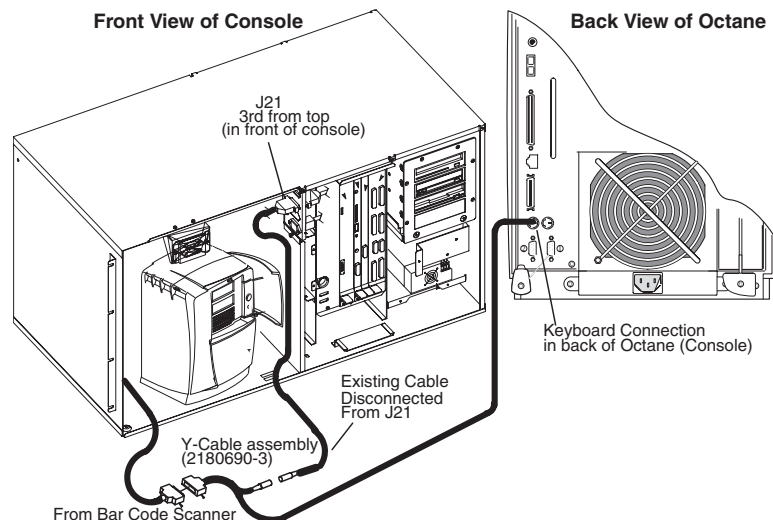

Figure 6-2 Bar Code Reader Installation (Detail)
- 3.) Attach the Y-cable assembly (2180690-2) to the bar code scanner cord. (Refer to Figure 6-2 for details)
- 4.) Unplug the existing keyboard connector from rear of Octane Computer. (Refer to Figure 6-2 for details)
- 5.) Attach keyboard connector to the short length female connector on the Y-Cable assembly. (Refer to Figure 6-2 for details)
- 6.) Connect the long length male connector from the Y-Cable assembly to keyboard connection in the back of the Octane Computer. (Refer to Figure 6-2 for details)